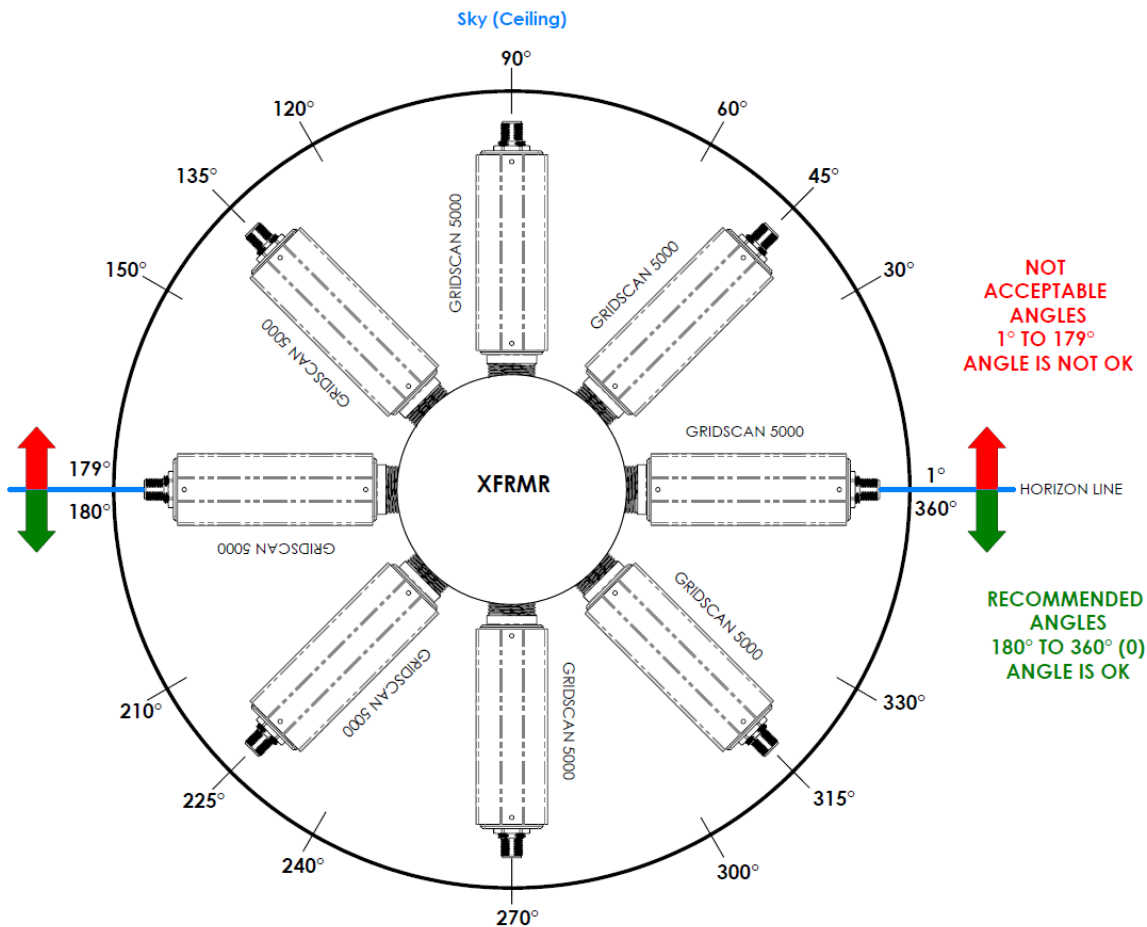

Figure 5: GRIDSCAN 5000 Recommended In-Oil Installation
Attach the monitor to a ¾"-14 NPT fitting on the oil tank. Adapter bushings for larger ID fittings can be used, however, do not use adapters to smaller ID fittings or pipe. In oil, the monitor should be mounted in a horizontal position, per Figure 5, to prevent an air bubble forming around the sensor element. Vertical or horizontal mounting is acceptable in gas.
- When installed in oil, the monitor must be mounted horizontally as shown in Figure 5.